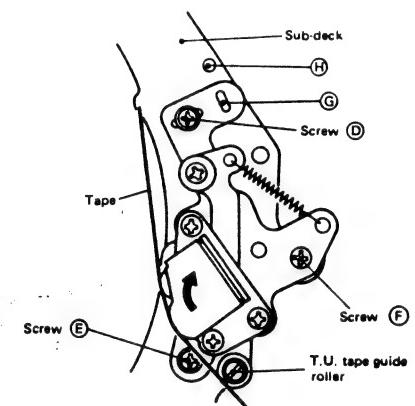

Fig. 2-50
- Loosen the three screws (D), (E) and (F) and slide the audio/control head assembly fully in the direction of the drum (indicated by the arrow) as shown in Fig. 2-50.
- Slightly tighten the three screws (D), (E) and (F) and play stairstep segment of the alignment tape MH-2.